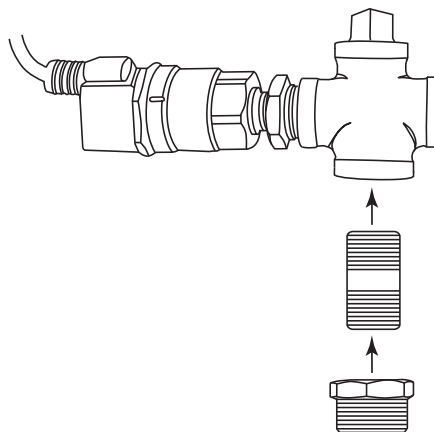

Fig. 6 Installing pipe nipple into cross fitting and bushing onto pipe nipple
5. Thread the 1/2" NPT pipe nipple into the port on the cross fitting opposite of the 1/2" NPT plug from Step 2. Tighten wrench tight; see fig. 6.
6. Thread the 1/2" to discharge size NPT bushing(s) onto 1/2" NPT pipe nipple. Tighten wrench tight; see fig. 6.